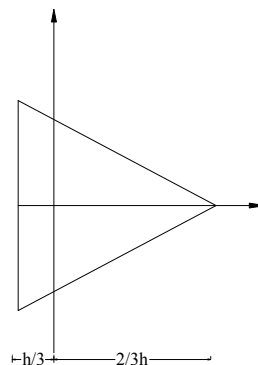

Figure-1
1. Solve for an equilateral triangle of side $2h/\sqrt{3}$ as shown in figure-1, the stress function is given by $\phi = \frac{G\theta}{2h} \left[\left\{ x - \sqrt{3}y - \frac{2h}{3} \right\} \left\{ x + \sqrt{3}y - \frac{2h}{3} \right\} \left\{ x - \frac{h}{3} \right\} \right]$ and also show that